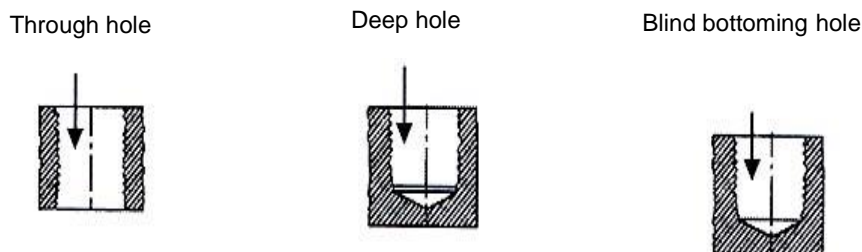

FIG 5.
B. The set of three taps shown in Fig 4 is used for hand tapping “through holes”, “deep holes” or “blind bottoming holes”. (Fig 5)